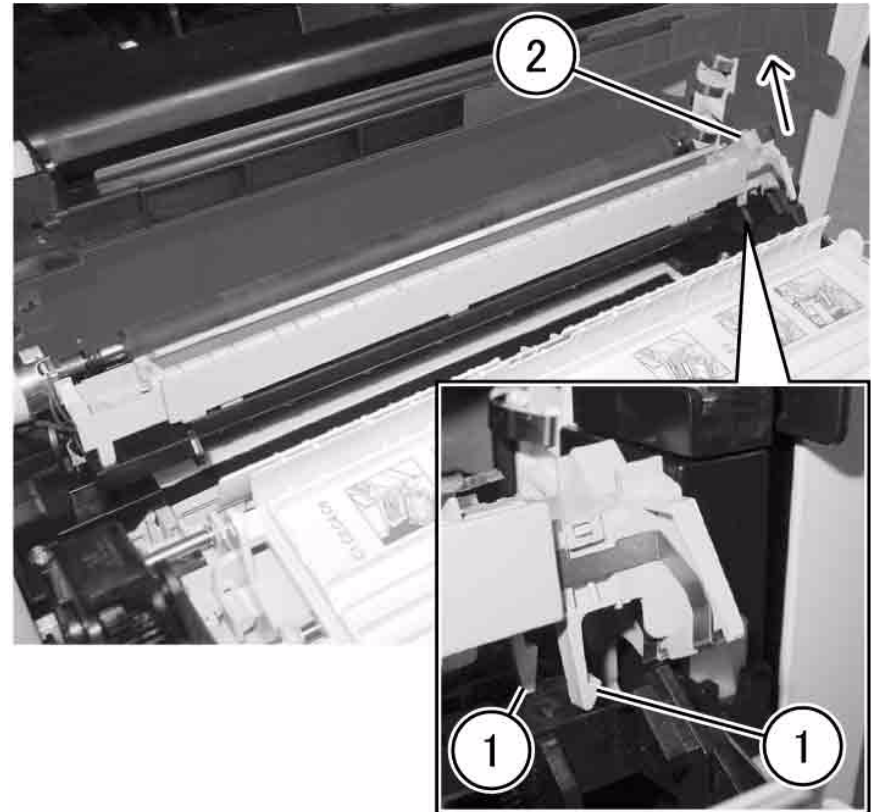

Figure 1 Remove Transfer Corotron Housing
- Remove the Transfer Corotron Housing (Figure 1).
- (1) Release the hooks (2).
- (2) Remove the Transfer Corotron Housing by pulling the front side in the direction of the arrow